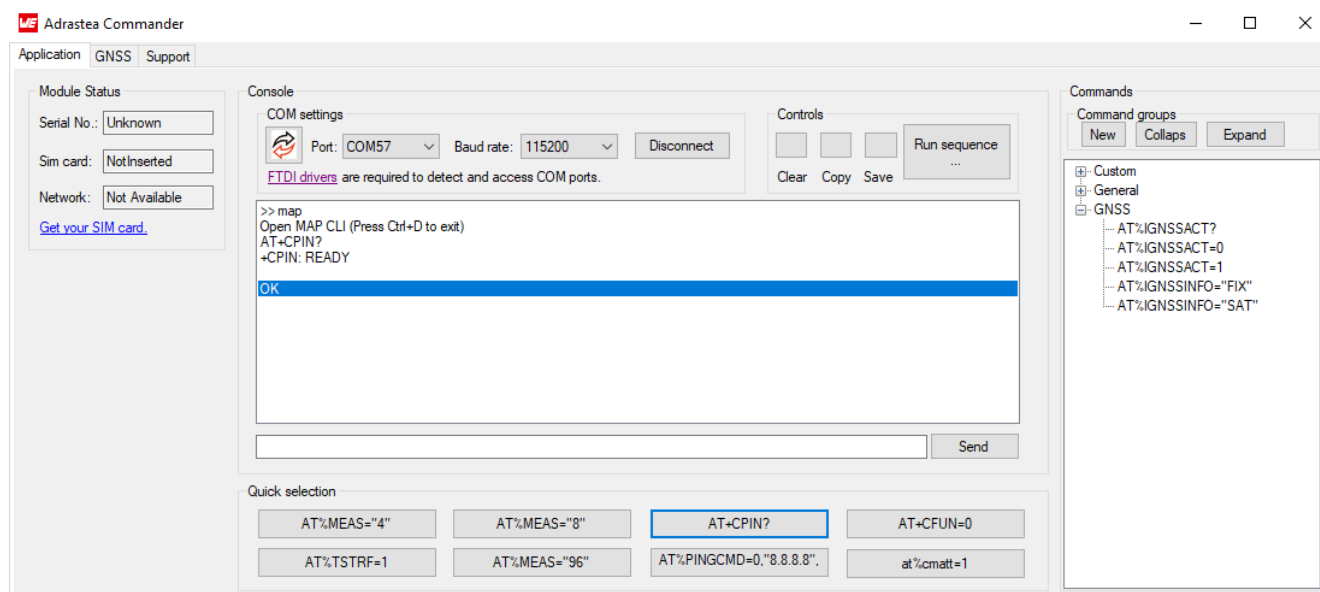

Figure 20: SIM card detected - Adrastea Commander
7. Check if the SIM card is detected. Send command MAP follow by the command AT+CPIN?. See figure 20.